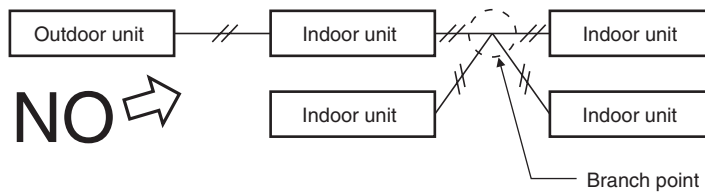

Fig. 4-4
- (3) Do not install inter-unit control wiring such as star branch wiring. Star branch wiring causes mis-address setting. (Fig. 4-4)